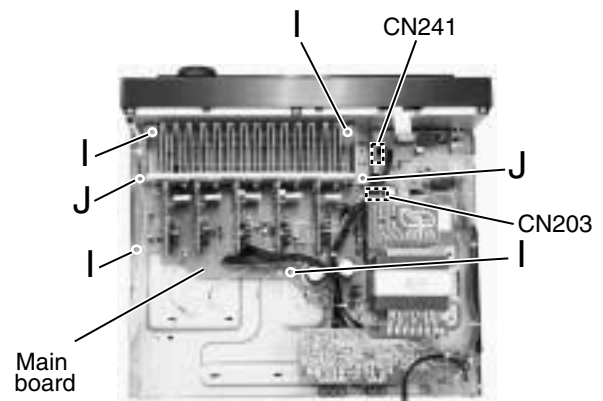

Fig.10
■ Removing the main board. (See Fig.10)